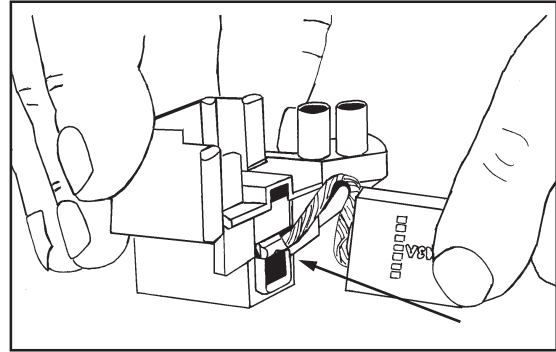

Figure 16
7. To put in a new carbon brush, negotiate the terminal on the shunt wire by the spring and brush holder guide. Take care not to damage the spring. See figure 16.